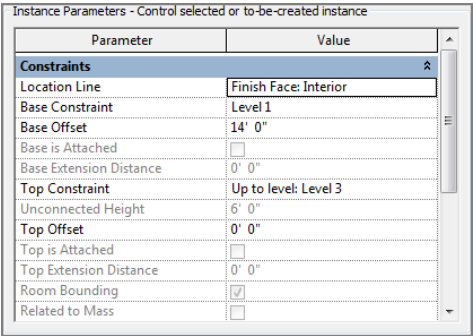

FIGURE 9.25: Setting Top Constraint and Base Offset
3. In the Properties dialog box, set Base Offset to 14'-0" (4200mm), as shown in Figure 9.25.
4. Set Top Constraint to Up To Level: Level 3 (see Figure 9.25).